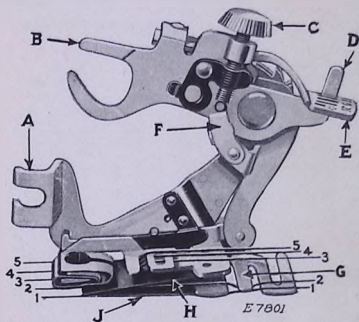
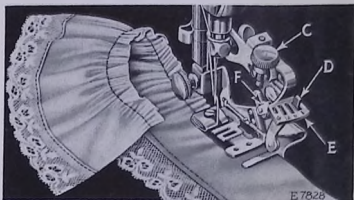
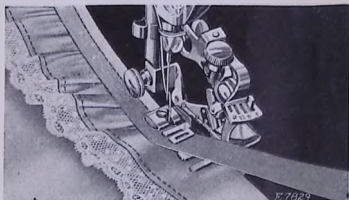
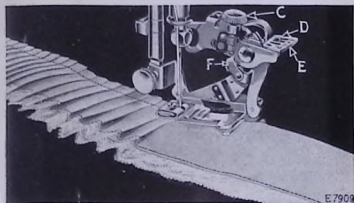

FIG. 42. THE RUFFLER AND ITS PARTS
FIG. 43
FIG. 45
FIG. 47
Lines 1, 2, 3, 4 and 5 shown in Fig. 42 indicate where the material is to be placed for various operations, as follows:
Refer to Fig. 42 when inserting the material in the ruffler.
(SEE REFERENCES IN FIG. 42)
Raise the needle bar to its highest point and remove the presser foot. Attach the ruffler foot (A, Fig. 42) to the presser bar by means of the thumb screw, at the same time placing the fork arm (B, Fig. 42) astride the needle clamp as shown in Fig. 43.
The adjusting finger (F, Fig. 43) is not intended for gathering and should be moved forward or away from the needle, as shown in Fig. 43.
Raise the adjusting lever (E, Fig. 43) and move it to the left so that the projection (D, Fig. 43) will enter the slot marked "1" in the adjusting lever (E) when the lever is released. The ruffling blade will then move forward and back once at every stitch. Insert the material to be ruffled between the two blue blades, following the line 2 in Fig. 42. Draw the material slightly back of the needle, lower the presser bar and commence to sew.
2, in Fig. 42. Place the garment to which the ruffle is to be attached, under the separator blade, following the line 1, in Fig. 42. Proceed the same as for gathering.
Insert the material to be ruffled between the two blue blades, following the line 2, in Fig. 42. Place the garment to which the ruffle is to be attached, under the separator blade, following the line 1, in Fig. 42. Place the material for the facing over the upper blue blade, as shown in Fig. 45, following the line 3, in Fig. 42. The facing may be straight or bias material. If the facing is to be on the right side of the garment, place the garment and
Insert the material to be ruffled between the two blue blades, following the line 2, in Fig. 42. This
The material for piping must measure about $\frac{1}{4}$ inch wide when folded in the centre and is usually cut on the bias. Place the piping material in the ruffler, following the line 4, in Fig. 42, with the folded edge of the piping to the right. The material to which the piping and ruffling are to be sewn should be folded on the edge and inserted in the ruffler, following the line 5, in Fig. 42.
Raise the adjusting lever (E, Fig. 47) and move it to the right so that the projection (D, Fig. 47)
will enter the slot marked "6" in the adjusting lever when the lever is released. The ruffling blade will then move forward and back once at every six stitches. To adjust the ruffling blade to make a plait once at every twelve stitches, place the adjusting lever (E, Fig. 47) so that the projection (D) enters the slot marked "12" in the adjusting lever. Insert the material to be plaited between the two blue blades, following the line 2, Fig. 42. The size or width of plaits is regulated by the adjusting screw
(C, Fig. 47) and the adjusting finger (F, Fig. 47). To make a wider plait, move the adjusting finger (F) back or toward the needle and turn the adjusting screw (C) downwardly. To make a smaller plait, turn the adjusting screw (C) upwardly. The distance between plaits is regulated by the length of stitch.